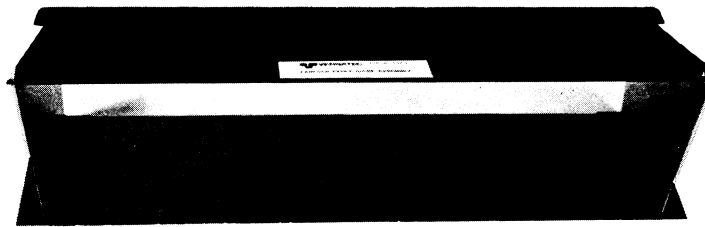
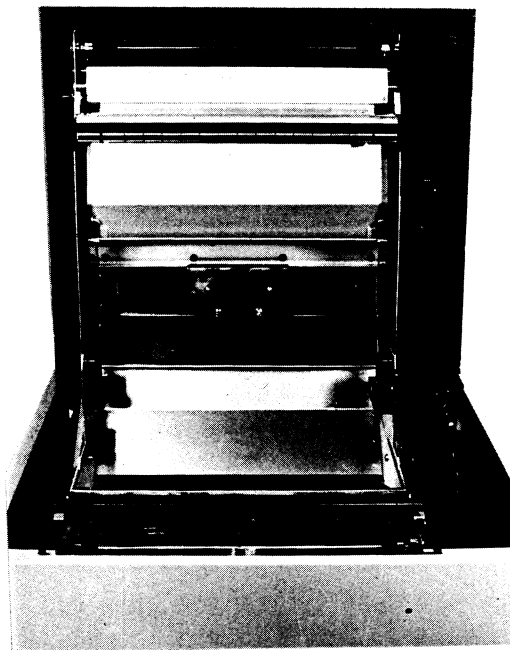
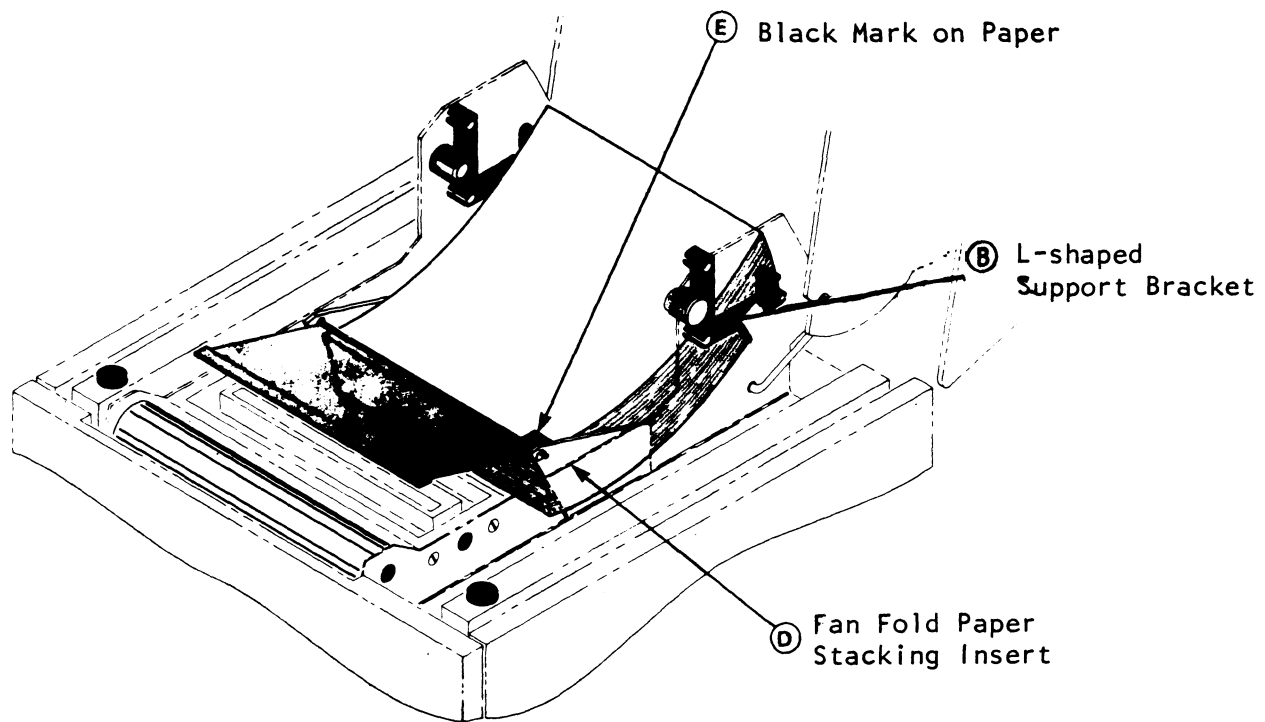

Figure 3-8 Paper Stacking Insert
Figure 3-9 Paper Supply Compartment
Figure 3-11 Position of Stack for Fanfold Operation
1. Remove the spool-cross from the L-shaped paper support brackets. (One L-shaped bracket is located at each side of the paper supply compartment.) The spool-cross is used with roll paper only. Figure 3-9 shows the paper supply compartment with the spool-cross removed.
2. Position the paper stacking insert (Figure 3-8) in the bottom of the paper supply compartment. For positioning, see "D" in Figure 3-11. Notice that the hinges on the paper stacking insert are located toward the front of the machine when the insert is positioned properly.
* Refer to Figures 3-11 and 3-12. These two figures are also found on the inside of the front panel.
Load the paper stack with the leading edge of the first sheet toward the front of the machine. The rectangular black mark should be at the front right-hand edge of the stack (see "E", Figure 3-11). Printing occurs on the side of the paper opposite to that on which the black mark is located. The black mark is sensed by the optical mark sensor located on the right side in the top of the mechanical module directly below the back-up electrode (Figure 3-9).